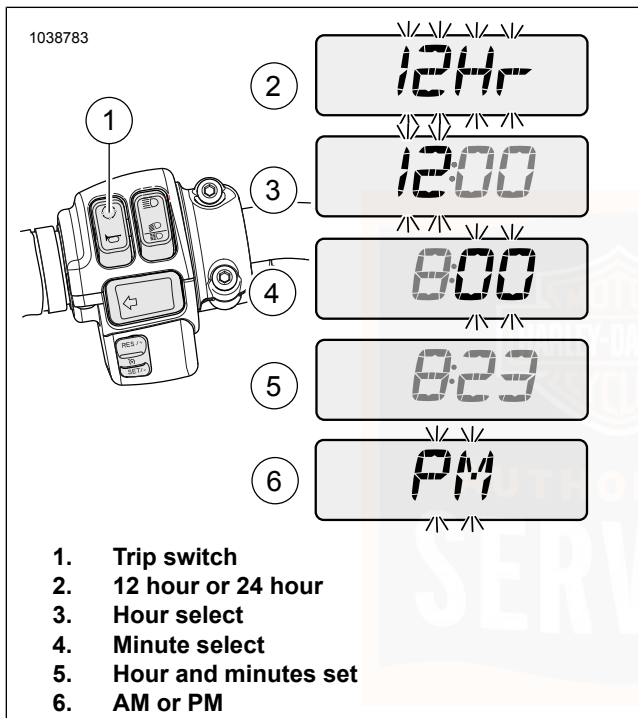

Figure 32. Time Displays
2. See Figure 32. Press and release the trip switch (1) until time (hour and minutes) is displayed. Press and hold the trip switch until 12Hr (2) begins to blink in the display window. Release the switch.
4. When the desired time style is displayed, press and hold the trip switch until the hours display (3) is blinking.
6. When the correct hour is displayed, press and hold the trip switch until the minutes display (4) starts blinking.
8. When the correct minutes are displayed (5), press and hold the trip switch until the display advances to the selection of AM or PM (6).